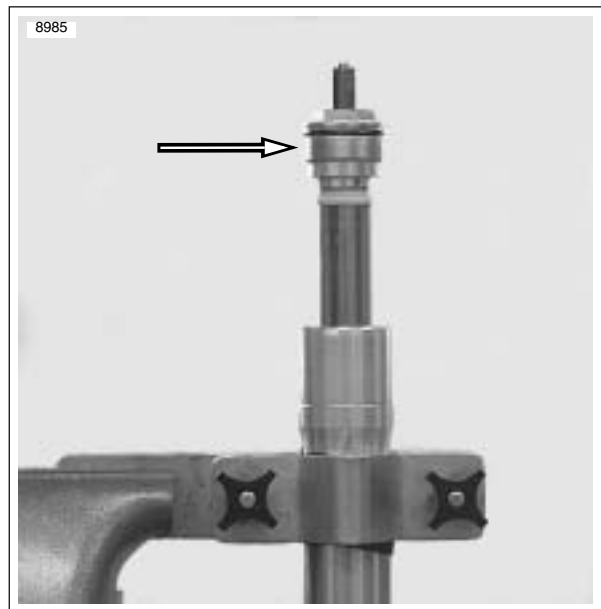

Figure 2-68. Removing Fork Cap From Outer Tube
5. See Figure 2-68. Remove fork cap from outer tube.